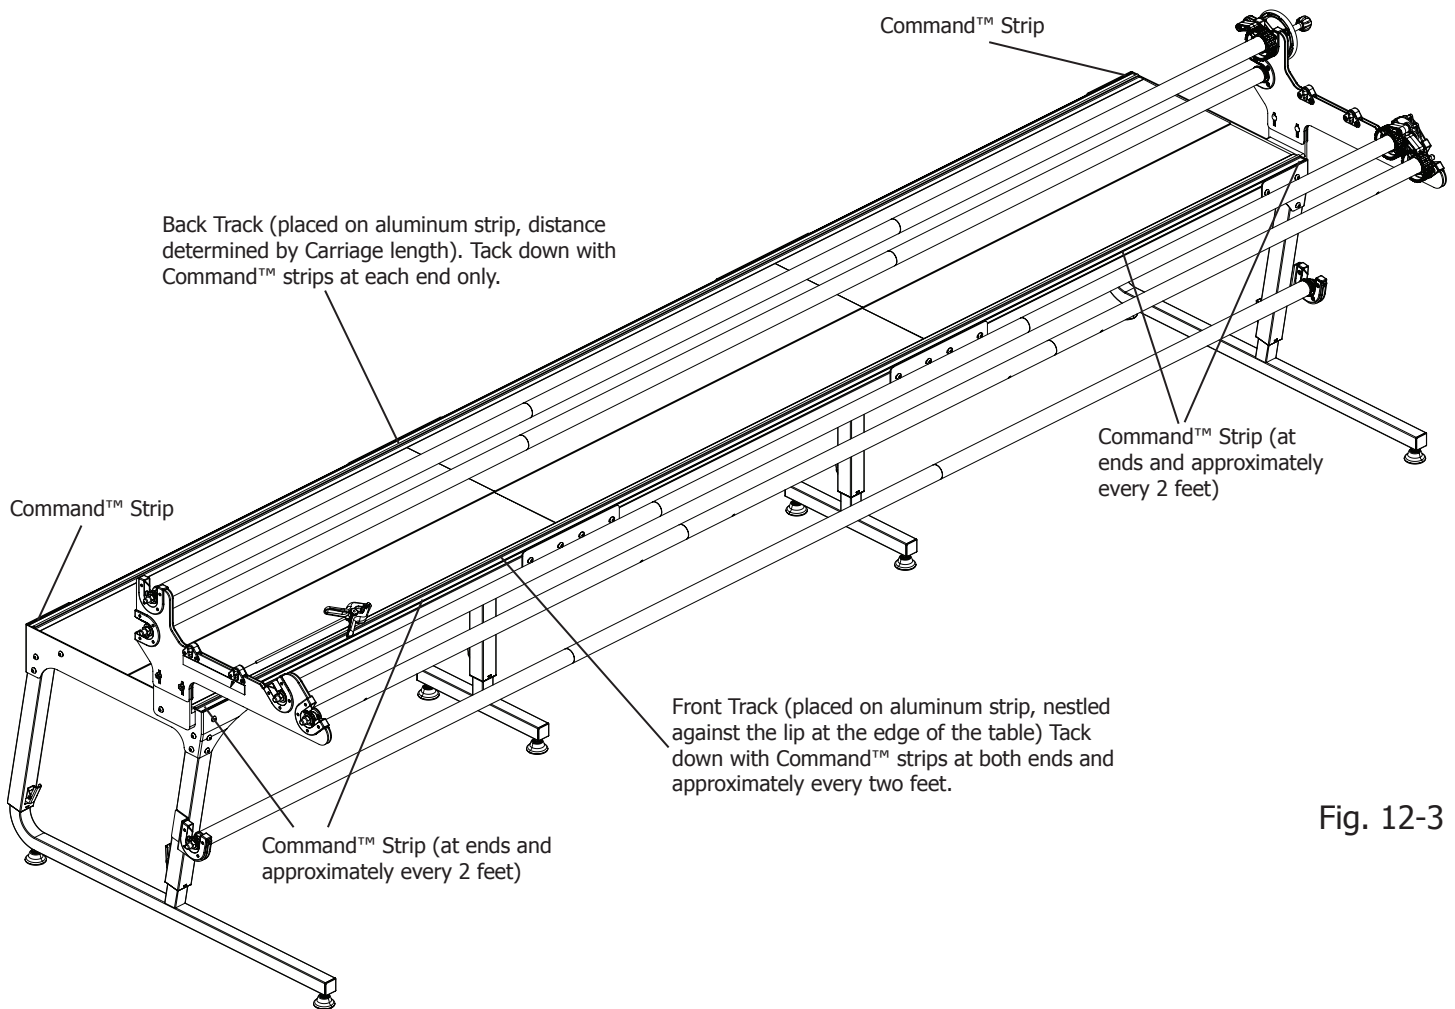

Fig. 12-3
**NOTE:** Handi Quilter recommends that you attach the front track to the table at each end of the track and approximately every 2 feet (using the Command™ Strips included with the frame). See Fig. 12-3.
portion of the track. Begin at one end; position the track and press firmly for 30 seconds. Repeat for each tab until track is attached, aligning edge of front track with lip at front edge of table. (Fig. 12-3)